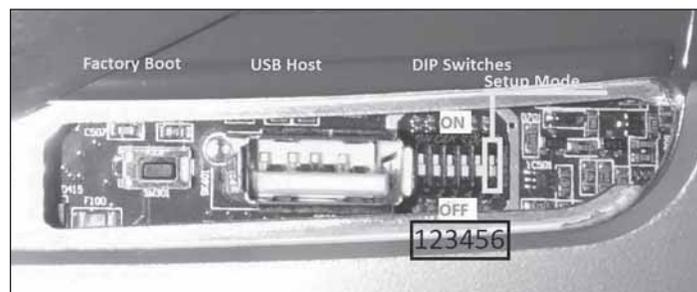

Figure 95. USB port
4. Plug the USB drive into the USB Host port (see **Figure 95**). Within 10 seconds, the module should recognize the USB drive and the OK LED should flash red-green. If the module does not recognize the USB drive, check to make sure that the drive is formatted with FAT file system and that it contains a directory named "logs".